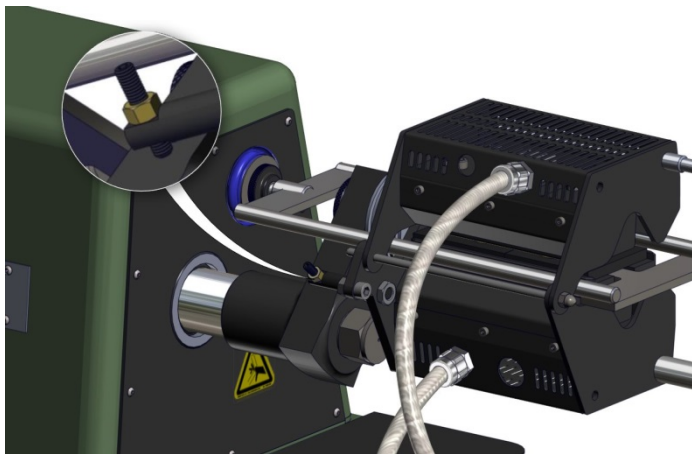
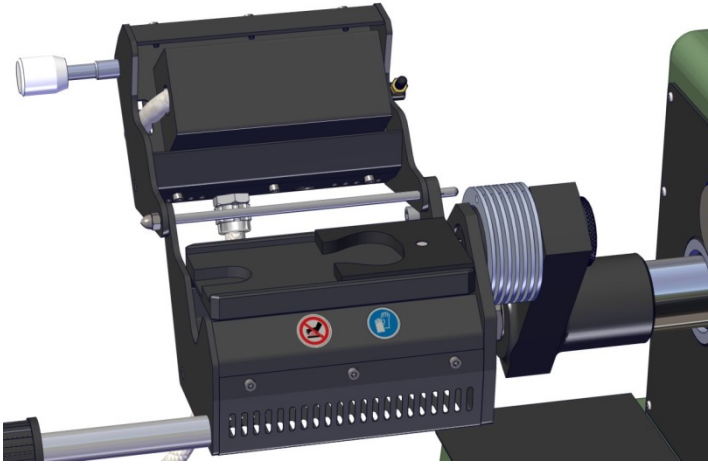
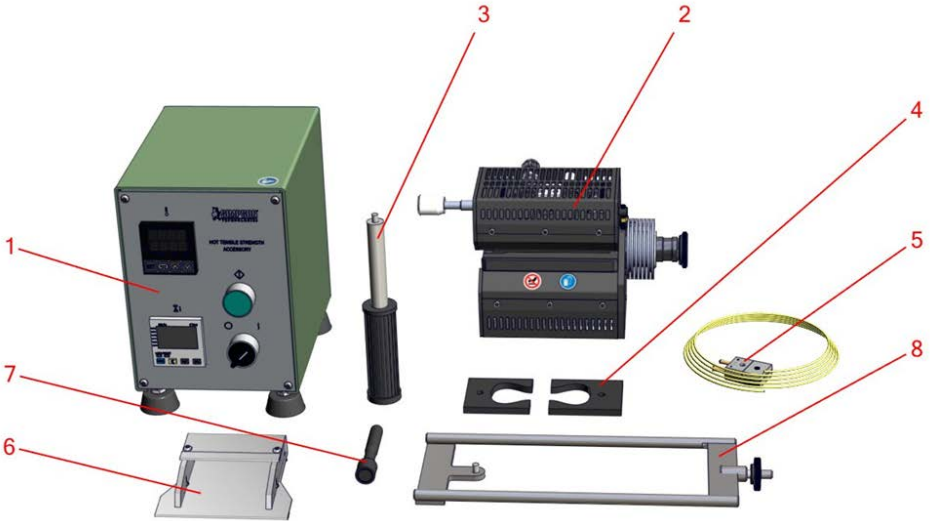

Figure 4.5.1.3
Figure 5.1.1
Figure 1: Hot Shell Tensile Accessory Components
1. Install the lifting handle (Figure 1, Item 3) into the threaded hole located on the front lower left corner of the lower heating block of the Heating Block Assembly (Figure 1, Item 2).
3. With the assistance of the lifting handle (Figure 1, Item 3), carefully slide the Heating Block Assembly into the mating hole located on the Moveable Clamp Arm (Drawing 42104MAN, Item 2) of the Electronic Universal Sand Strength Machine. Adjust the position of the Heating Block Assembly (Drawing 42104MAN, Item 1) so that the lower heating plate is flat with the base of the strength machine. This is accomplished by adjusting the support set screw and nut, on the rear of the Heating Block Assembly, to the Moveable Clamp arm of the Electronic Universal Sand Strength Machine (Figure 4.5.1.3). Install the knurled screw (Drawing 42104MAN, Item 3) back into the Heating Block Assembly and hand tighten to hold the Heating Block Assembly in position on the strength machine.
2. Using the handle on the left side of the upper heating block, raise the upper heating block to the open position. Clean any loose sand from the contact surface of both the upper and lower heating block on the heating block assembly (Figure 1, Item 2). (If performing the alternate test, ignore raising the upper heating block and cleaning sand from the upper surface.) Coat both tooling jaws and the contact surfaces of the upper and lower heating blocks with a light coating of an appropriate release agent for use with shell coated foundry sands. Using the magnetic tool extractor, carefully place the right tooling jaw on the right locating pin located on the lower heating block (see Figure 5.1.1). Place the bridge (Figure 1, Item 8) and using the magnetic tool extractor, insert the left tooling jaw onto the lower heating block (see Figure 5.1.2).
12. Fill the hopper on the hopper/striker (Figure 1, Item 6) with shell sand to be tested.
20. Using the Magnetic Tool Extractor (Figure 1, Item 7) remove the left and right tooling jaws from the Heating Block Assembly. The broken sand specimen should remain in the tooling jaws when they are removed.
23. After removing the broken sand specimens, clean both tooling jaws and coat both the tooling and the contact surfaces of the upper (if applicable) and lower heating blocks with a light coating of an appropriate release agent for use with shell coated foundry sands. Using the Magnetic Tool Extractor, carefully place the right tooling jaw on the right locating pin located on the lower heating block (see Figure 5.1.1). Place the bridge (Figure 1, Item 8) and, using the Magnetic Tool Extractor, insert the left tooling jaw onto the lower heating block (see Figure 5.1.2).